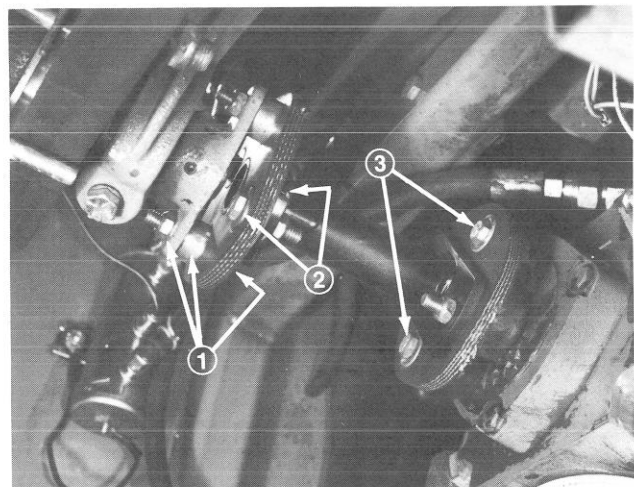

Figure 59
2. Remove two capscrews, lockwashers, flatwashers, rubber washers and nuts securing drive coupling assembly to engine pulley and two capscrews, flatwashers and locknuts securing coupler to transmission hub (Fig. 59). Slide assembly out after capscrews are removed.
3. If drive coupling assembly must be disassembled, separate rubber couplings from power shaft by removing four nuts, flatwashers, capscrews and spacers (Fig. 59).
1. Assemble rubber couplings and power shaft with capscrews, spacers, flatwashers and nut (Fig. 59).
2. Position drive coupling assembly between engine and transmission hub, and align the holes. Secure drive coupling between hubs with capscrews, flatwashers, rubber washers and nuts on engine end; capscrews, flatwashers and nuts on pump end (Fig. 59). Tighten the capscrews alternately and evenly to prevent distortion of the rubber coupling.